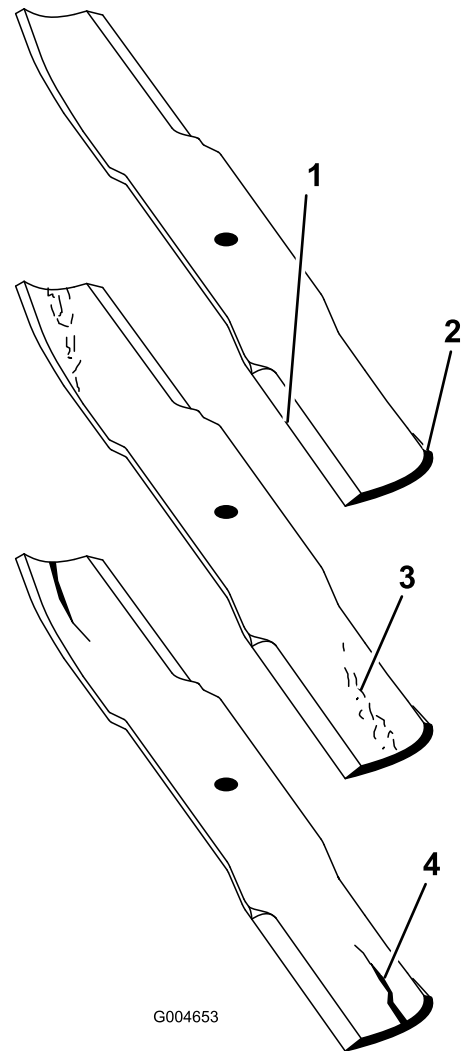

Figure 26
3. Examine the cutting ends of the blade carefully, especially where the flat and curved parts of the blade meet (**Figure 26**).
Note: Because sand and abrasive material can wear away the metal that connects the flat and curved parts of the blade, check the blade before using the mower. If you notice wear (**Figure 26**), replace the blade.